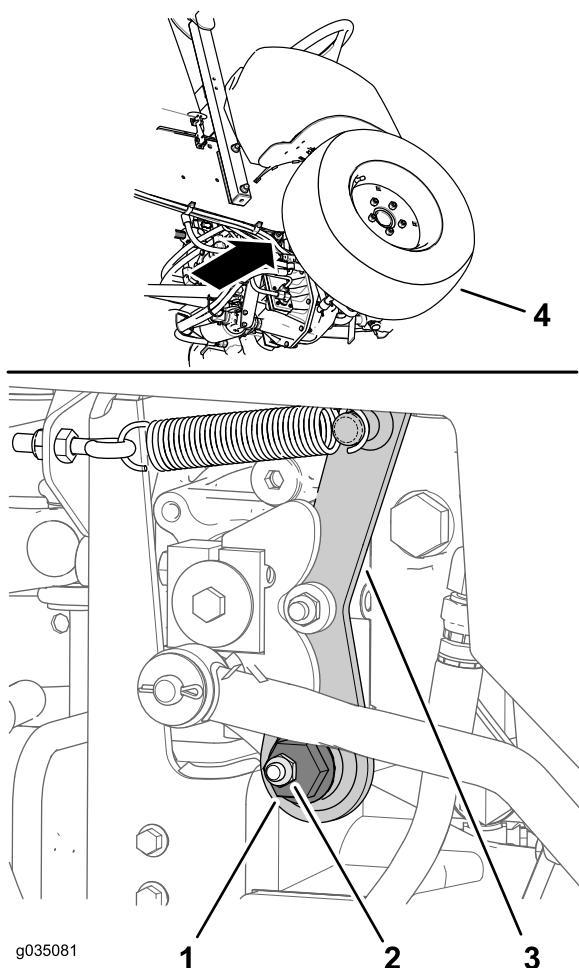

Figure 70
1. Locate the eccentric hex to the right of the hydraulic pump and below the control console (Figure 70).
2. Loosen retaining nut until you can move the eccentric hex (Figure 70).
4. Rotate the eccentric hex counterclockwise until the front wheel starts to rotate forward, then rotate the hex eccentric clockwise until the front wheel starts to rotate rearward (Figure 70).